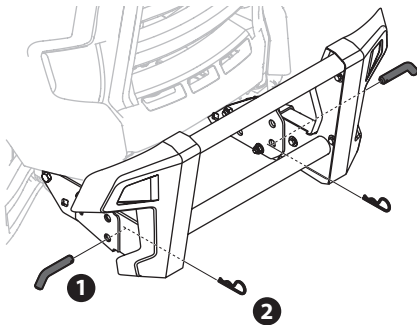

Figure 17
2. Install the pins on the right and left side of brush guard (1) and then secure with two cotter pins (2) found in the hardware pack (Figure 17).